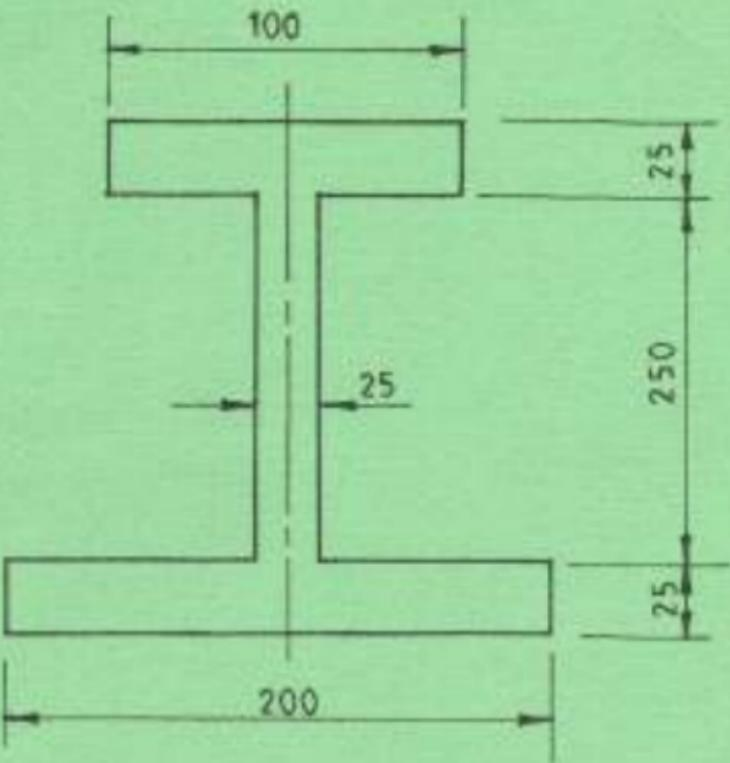

Figure 3
3. Figure 3, shows a section of a purlin:
3. (a) A beam of an I-section shown in figure 3 is simply supported over a span of 4.3 m. Determine the load that the beam can carry per meter length if the allowable stress in tension is 100 N/mm². (12 marks)